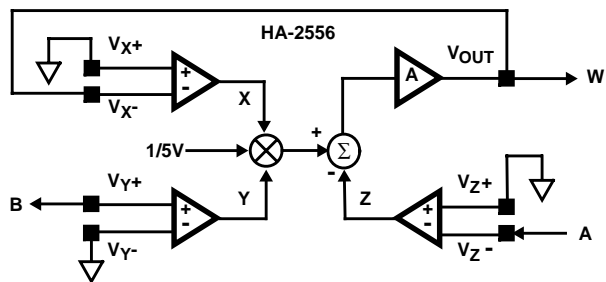

FIGURE 3. DIVIDER
Notice that the output (W) enters the equation in the feedback to the Z stage. The Balance Equation does not test for stability, so remember that you must provide negative feedback. In the multiplier configuration, the feedback path is connected to VZ+ input, not VZ-. This is due to the inversion that takes place at the summing node just prior to the output amplifier. Feedback is not restricted to the Z stage, other feedback paths are possible as in the Divider Configuration shown in Figure 3.